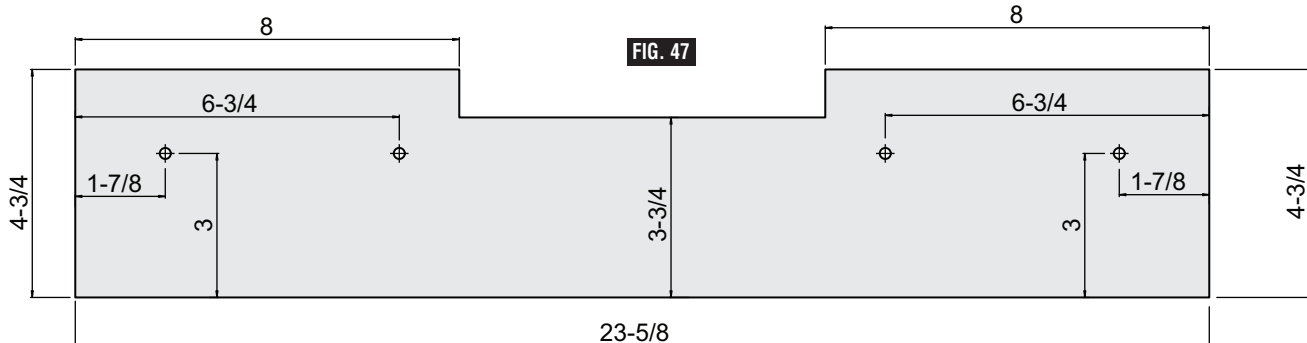

FIG. 47
1. Use 3/4" thick piece of wood (plywood is preferred) to cut an auxiliary fence based on dimensions shown in Figure 47.